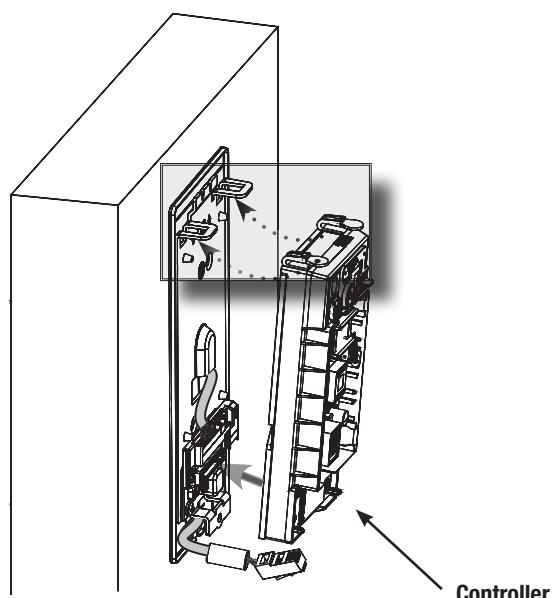
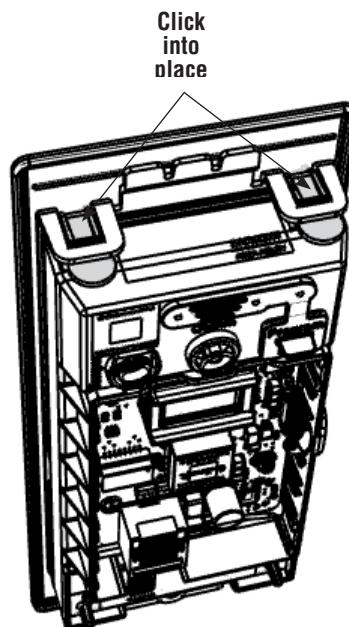

Fig. 4D
Fig. 4E
1. Insert bottom tab of controller (ensure a clear path) into slot on mounting plate (Fig. 4D, E).
2. Ensure proper alignment of board-to-board connectors (Fig. 4E) while pivoting controller toward door until two tabs on top snap securely into place on mounting plate (Fig. 4D).